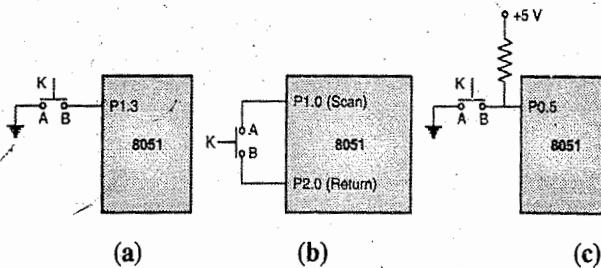

Fig. 2.3.1 : Interfacing push button switch to 8051
- Fig. 2.3.1(a) shows a single push button switch connected to P1.3 of microcontroller 8051. If key is not pressed, there is no connection between
- The push button can also be connected as shown in Fig. 2.3.1(b) such that one line is the input line (Return line) and the other is output line (scan line). Let P1.0 be scan line and P2.0 is
The push button can also be connected to port 0 as shown in Fig. 2.3.1(c). Port 0 is an open drain port. Hence, we connect an external  $10\text{ k}\Omega$  resistor at point B.